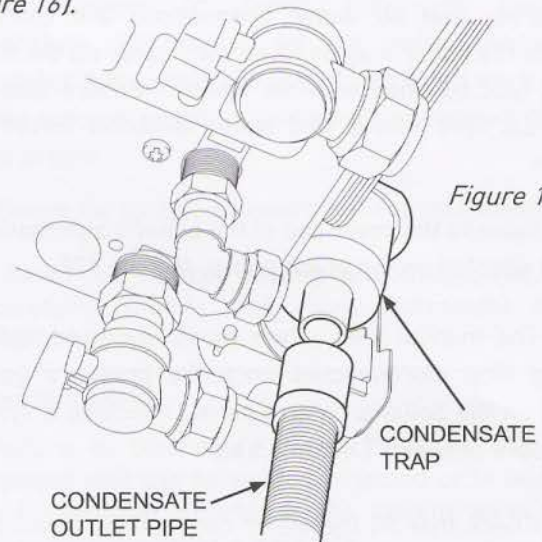

Figure 16
10.17 Extract the bottom part of condensate trap, by turning anti-clockwise and fill it with approximately 50 cc water re-connecting it to the boiler. (Figure 16).
10.18 Connect the condensate drainage pipe to the drainage system. (Figure 16) Note due to the acidic nature of the condensate the drainage system must be made of non-corrosive material such as plastic tubing. More detailed information on condensate discharge is provided in BS 6798 (Specification for installation of gas fired hot water boilers of rated input not exceeding 70kW)